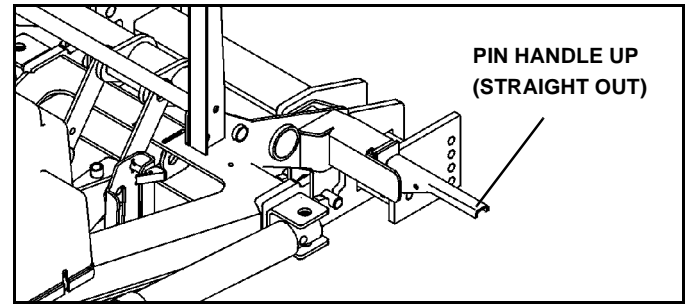

Figure 1-30
6. Rotate pin handles up (straight out) to unlock main pins. (See Figure 1-30).